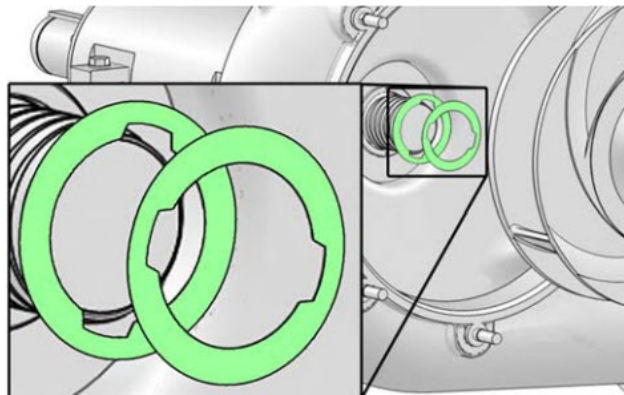

Figure 10-12: Staggered Impeller Gasket Installation
2. Place two gaskets (400.10) between the shaft sleeve and the impeller hub face. These gaskets will prevent galling and ensure ease of impeller removal. Stagger the gaskets so they are not in alignment (Figure 10-12). Install them dry, without grease.